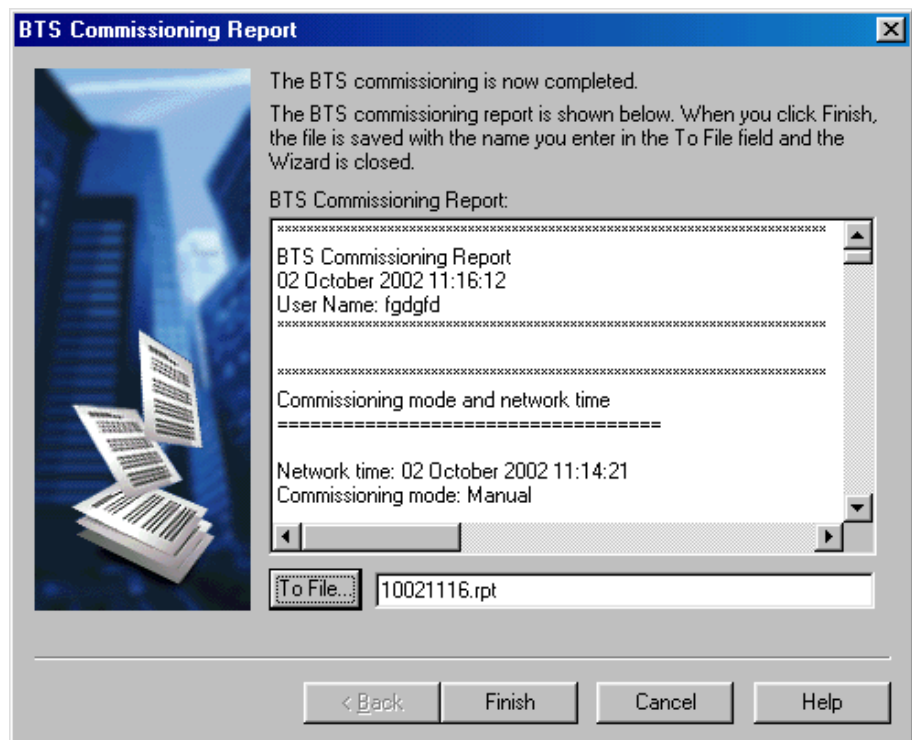

Figure 12. BTS Commissioning Report summary window
11. The *BTS Commissioning Report* wizard page appears (see Figure 12). Check the BTS Commissioning Report.